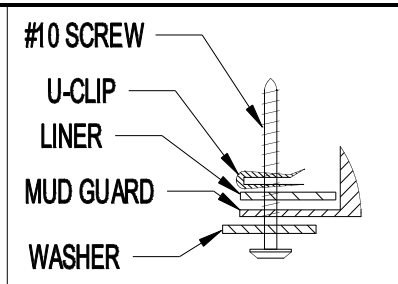

Figure 2
5. Install a #10 Screw thru a Fender Washer thru the mud guard and into the U-Clip placed on the backside of the fender liner at location C. **NOTE: DO NOT clip the u-clip over the fender liner (Figure 2).**